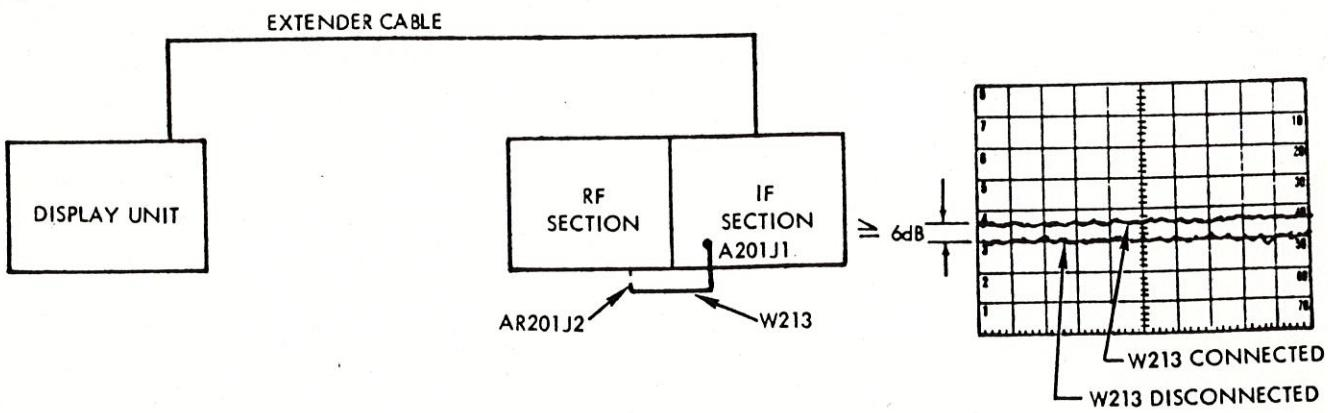

Figure 7-4. Noise Level Test Setup
7-22. NOISE LEVEL CHECK. Connect display unit and tuning unit as shown in figure 7-4. Set controls as follows:
- (1) Disconnect RF cable W213 and check noise level of display.
- (2) Connect W213 and check screen for approx. 5 dB increase in noise level (see figure 7-4).